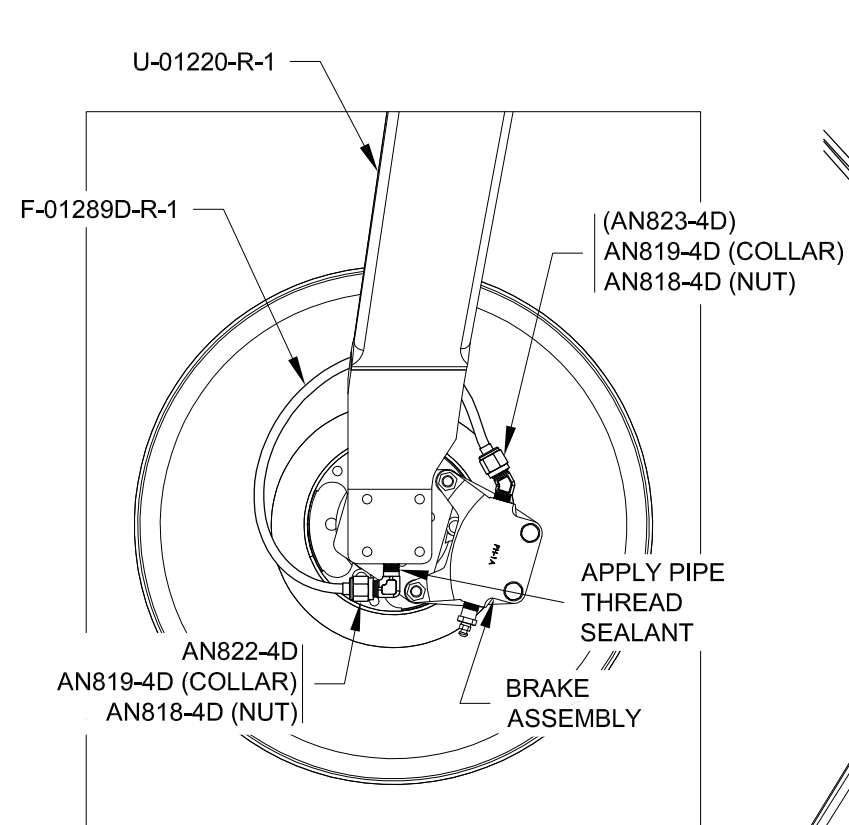

FIGURE 1: CALIPER BRAKE LINES
Step 3: Slip a nut and collar over each end of each F-01289D-L-1 & -R-1. Polish and flare the ends. See Figure 1.
Step 4: Bend, then attach the F-01289D-L-1 & -R-1 to the elbow fittings on the U-01220-L-1 & -R-1 and to the fluid fittings on the brake assemblies as shown in Figure 1. Ensure that the F-01289D-L-1 & -R-1 are clear of the U-01220-L-1 & -R-1.